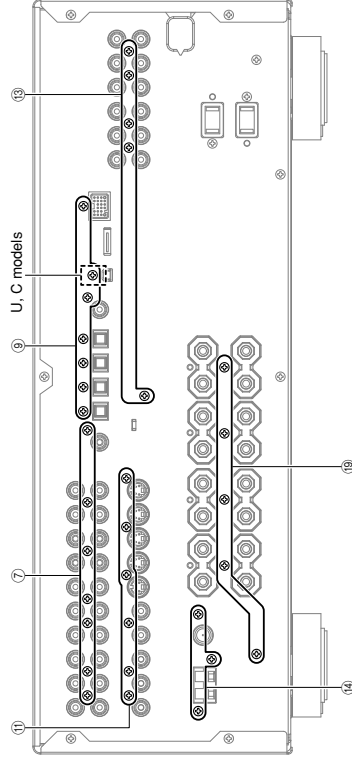

Fig. 4
- Remove 6 screws (⑪). (Fig. 4)
- Remove 5 screws (⑬). (Fig. 4)
- Remove 3 screws (⑭). (Fig. 4)
- Remove 5 screws (⑲). (Fig. 4)